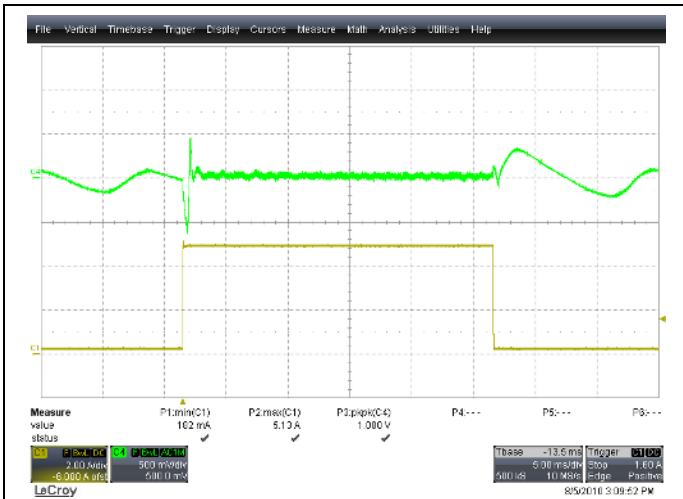
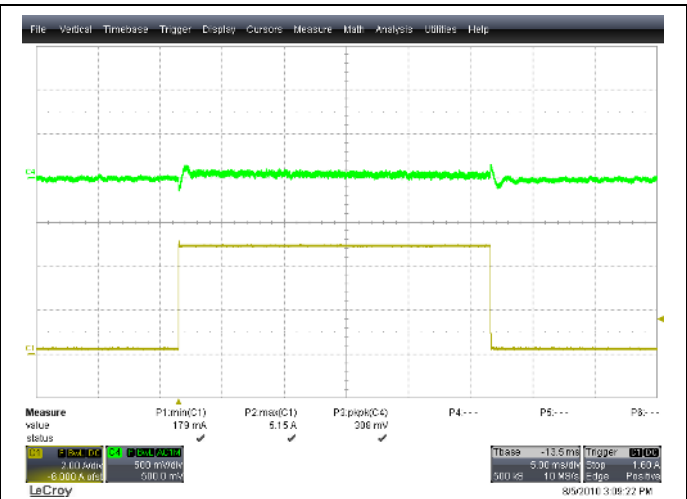

Figure 47 - Transient Analysis, 0.2A - 5A step load, 48VDC, SR disabled at light load
Figure 48 - Transient Analysis, 0.2A - 5A step load, 48VDC, SR enabled at light load
C. Transient Response under DCM/CCM transition: Figure 47 shows the dynamic response of the system under a load step of 0.2-5A (slew rate $1A/\mu s$). A low starting current is chosen so that the converter is forced to disable the synchronous rectifiers due to the light load threshold setting in the CS2 window. In contrast, Figure 48 shows the response with the light load threshold set at 0A (SR always on). This forces the output inductor current to be continuous and the converter remains in CCM despite the load condition drawing energy from the output capacitor to charge the inductor.